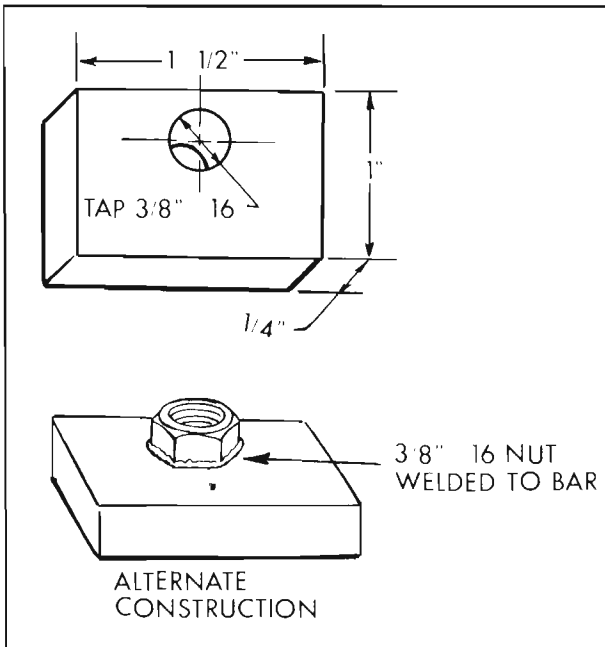

Figure 5-41—Turbine Removing Tool
2. Attach a bar  $1\frac{1}{2}$ " x  $\frac{1}{4}$ " x 1" (See Figure 5-41) to a J-7004 slide hammer. Place the edge of the remover under the edge of the first turbine. Hammer sharply on first one side then the other to move the first turbine straight up out of the turbine support.